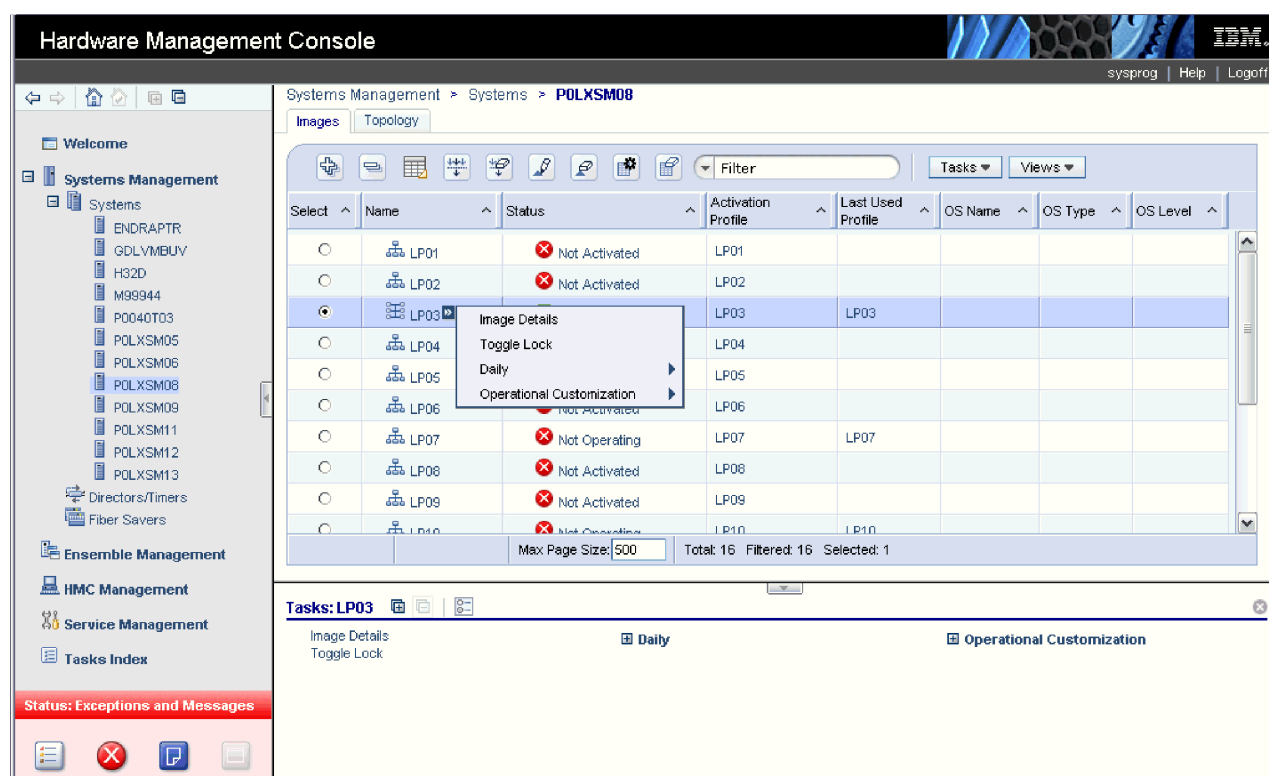

Figure 21. Systems management images window
System images: If images are defined for a particular system then they are displayed in the system work pane under the **Images** tab. The contextual tasks associated with a particular image are displayed in the tasks pad. You can also view the images associated with a system by selecting a system in the navigation pane so that the images are displayed in the work pane table under the **Images** tab (see Figure 21).
- Click on the arrow icon next to the image name and select **Image Details** from the context menu (see Figure 21), or
z/VM virtual machines: The **z/VM Virtual Machines** tab, as shown in Figure 21, can be used to display all managed z/VM virtual machines across all images running z/VM 5.3 or later.